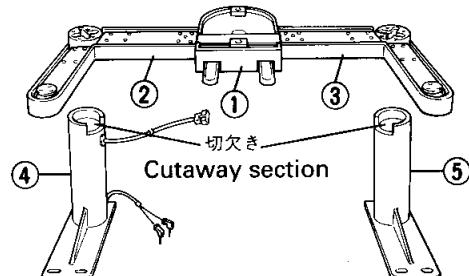
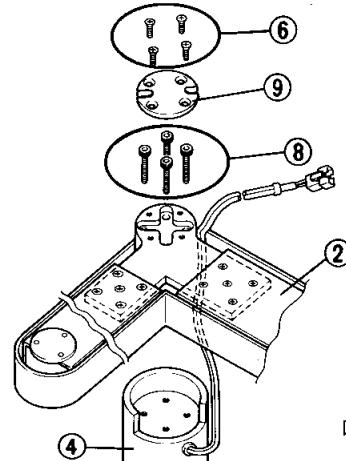

図1B/Figure 1B
図1C/Figure 1C
(2)脚柱Ass'y[R] ④と脚柱Ass'y[L] ⑤を図1Bのようにセットします。その際に、切欠き部分の位置に注意して、④と⑤をセットしてください。
(3)(1)で組み立てたボトム+ベースAss'y ①②③を④と⑤の上にのせます。
(4)図1Cで示すように、ケーブルを脚柱Ass'y[R] ④よりベースAss'y ②に通します。
(5)付属の六角レンチ ⑪を使って、固定ネジ ⑧で確実に締め付けます。
(6)次に、ゴムパッド ⑨を固定ネジ ⑥各4本で左右止めます。
- (1) Insert the base assemblies [R] ② and [L] ③ into the bottom assembly ① . Secure these using the 4 screws provided ⑥ . Then secure the plastic cover of the base assembly with a single screw ⑦ .
- (2) Position the leg assembly [R] ④ and leg assembly [L] ⑤ as shown in Figure 1B. When you do this, pay attention to the positioning of the cutaway sections.
- (3) Set the bottom and base assembly ① ② ③ constructed in step (1) on top of ④ and ⑤ .
- (4) Pass the cable from the leg assembly [R] ④ to the base assembly ② , as shown in Figure 1C.
- (5) Use the accessory hex wrench ⑪ to tighten the screws ⑧ securely.
- (6) Next, secure the rubber pads ⑨ in place on the left and right with screws ⑥ .